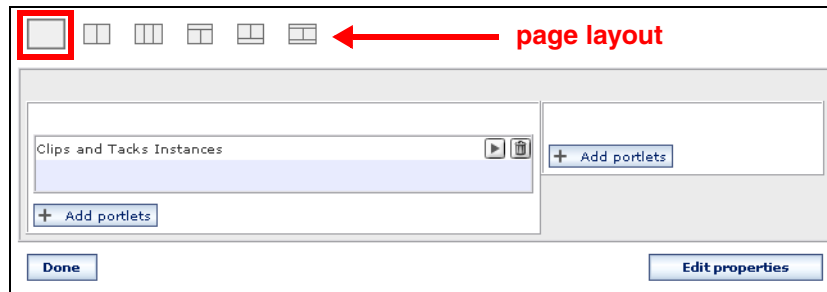

Figure 14-66 Portal page with one portlet
- ▶ The selected portlet is added. Notice that you can select different page layouts. Click *Done* (Figure 14-66).